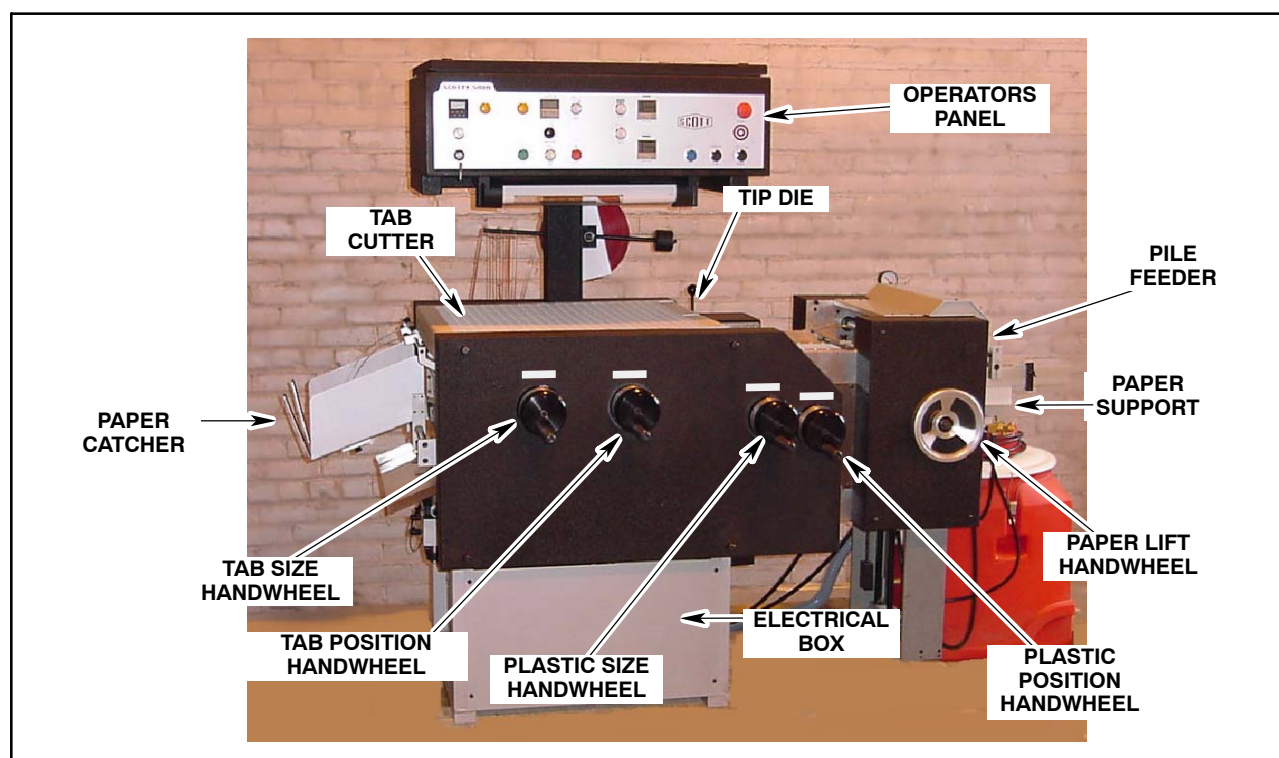
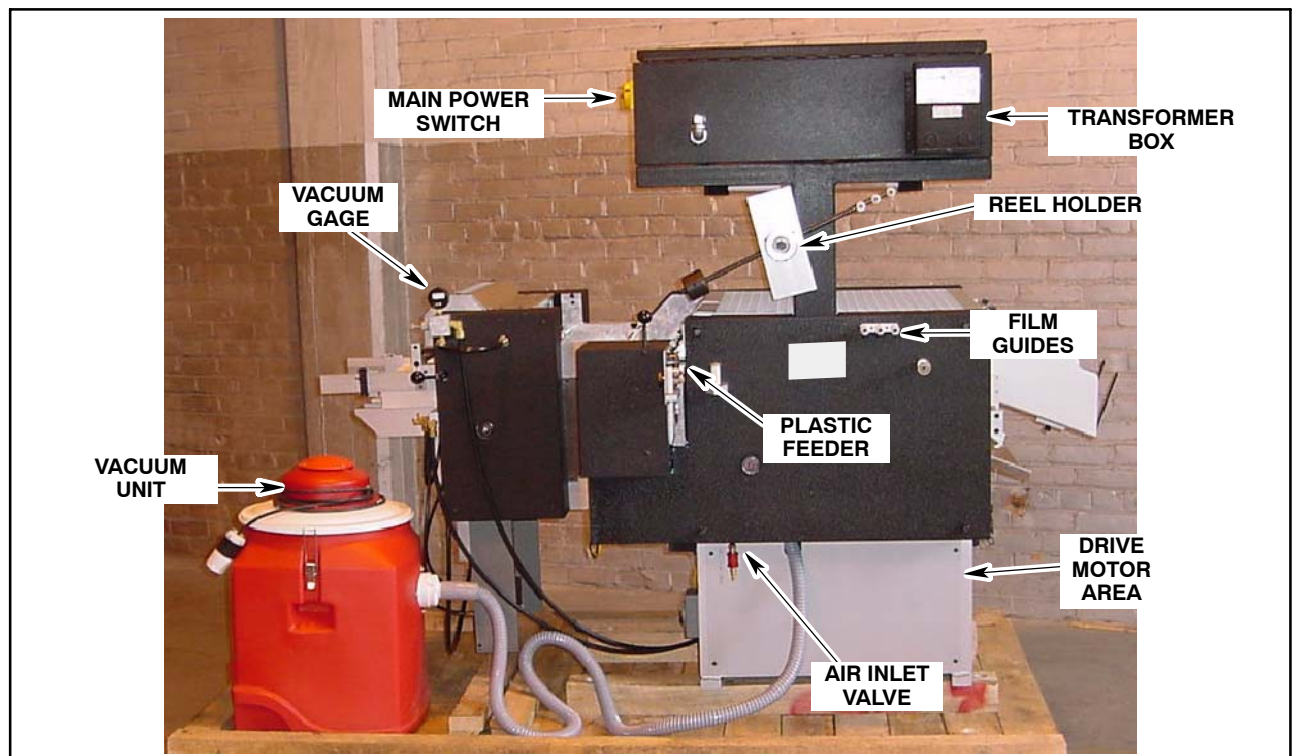
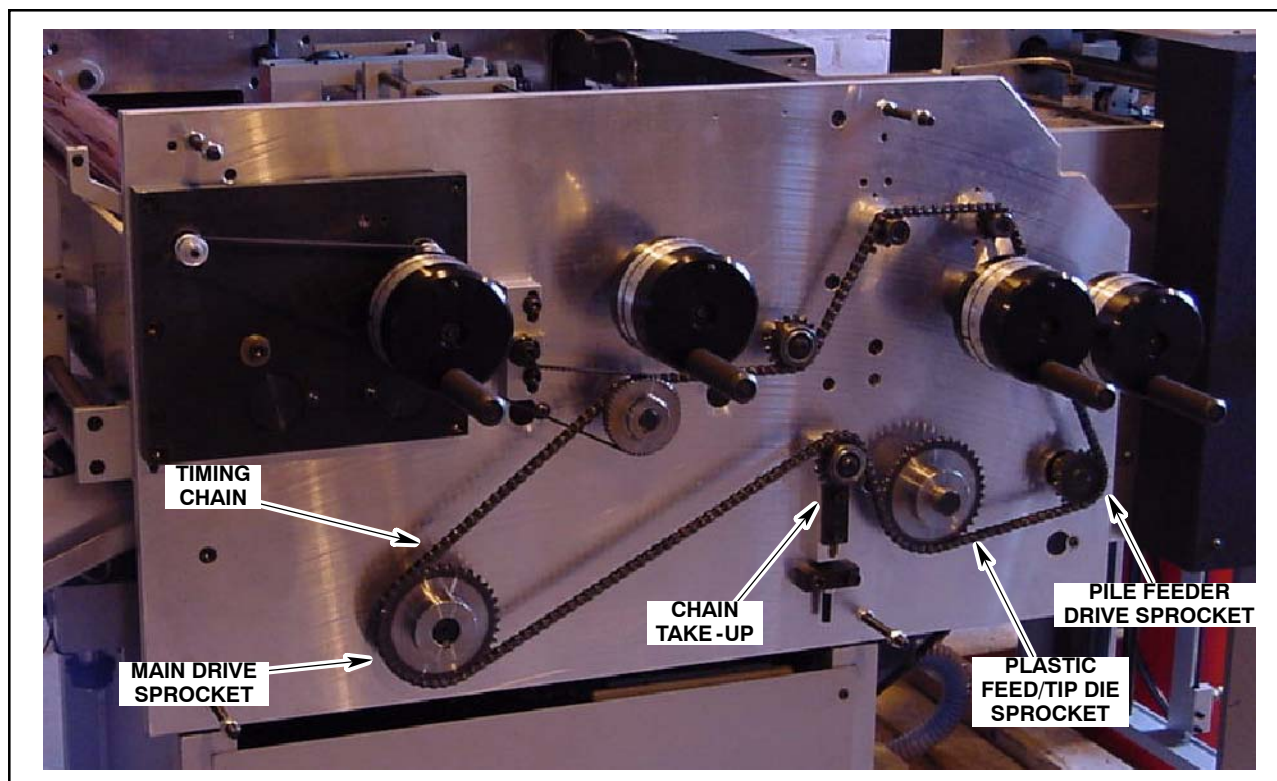

Fig. 4-9. Machine Front View
Fig. 4-10. Machine Back View
Fig. 4-11. Timing Chain Connections
**Note !** *Fig. 4-9. and Fig. 4-10. provide views of the front and rear sections of the machine. Fig. 4-11. is a view of the drive chain connection. All figures within this section can be easily located on the machine by referring to the appropriate view and/or drive chain for component location.*
Before machine timing can be performed a mechanic must remove the timing chain (Fig. 4-11. ) from the Main Drive sprocket, Plastic Feed/ Tip Die sprocket, and Pile Feeder Drive sprocket. This is accomplished by loosening the Chain Take-up and removing the chain.
**Step: 4.** Turn feeder drive shaft sprocket counterclockwise to move nozzles through normal rotation cycle. (See Fig. 4-11. )